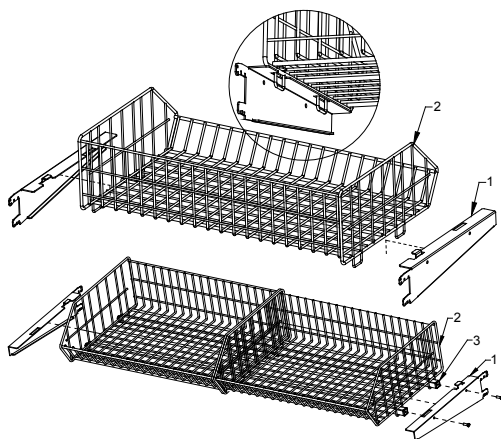

Fig.7 Fruit and vegetable baskets
2. Place shelves and/or baskets on hooks Fig.5 (p.14) and/or Fig.7 (p.15)